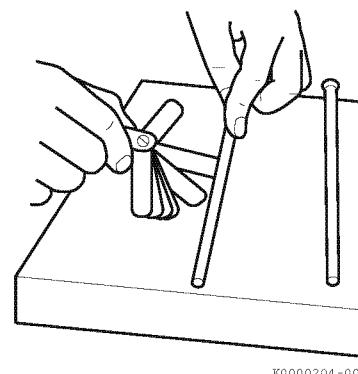

Figure 6-11
3. Use a feeler gauge to measure the gap (**Figure 6-11**). See *Push Rod* on page 6-4 for the service limit.